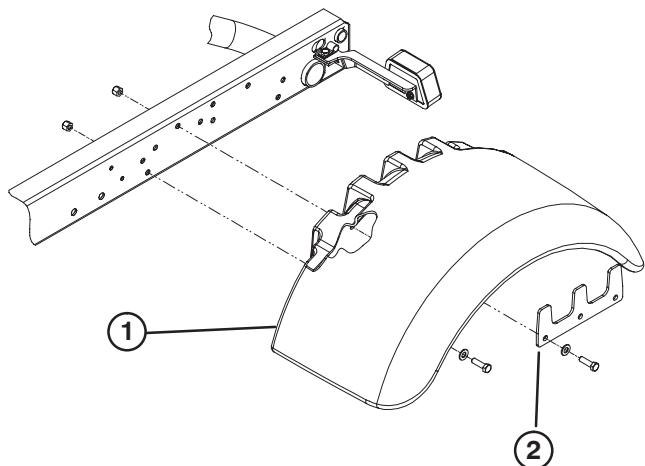

Figure 2
4. Loosely secure a fender to each side of frame with a support plate, (5) 3/8-16 x 1.25" lg. capscrews, .406" I.D. washers and (4) locknuts as shown in figure 2. A weld nut is in place to secure each rear capscrew.